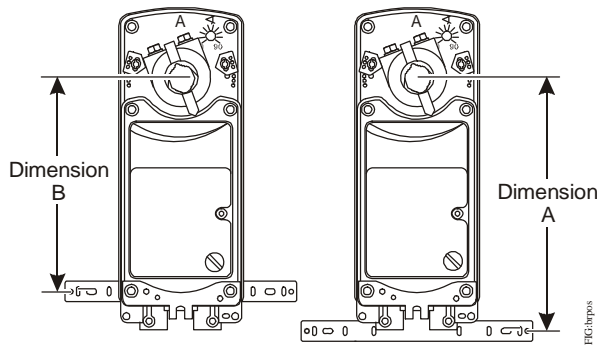

Figure 5: Positioning the Anti-rotation Bracket
1. See the dimensions in Figure 5 and Table 2 to ensure the correct positioning of the anti-rotation bracket.
3. Drill mounting holes in the damper frame or duct using the anti-rotation bracket as a guide (based on the measurements obtained in Table 2 and Figure 5).